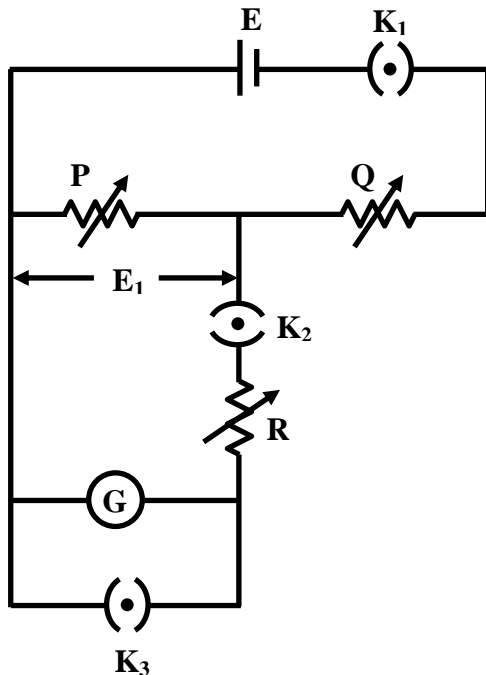

Fig. 1
- a) To determine free period T of the galvanometer on open circuit, keep $R = 0$, and get a deflection of 20cms on the scale by adjusting P and Q in Fig. 1. Then open K_2 and find the time (in seconds) taken for a few oscillations. $\therefore T = \text{time/no of oscillations}$.
- b) To determine coil resistance R_c (in ohms) of the galvanometer, keep $R = 0$, and get a deflection of 20cms on the scale by adjusting P and Q in Fig. 1. Then increase R gradually so that the deflection is 10cms. This of R is R_c .
- c) To determine sensitivity S (in radians per ampere) of the galvanometer, keep $R + R_c$ a convenient value in Fig. 1, get the deflections corresponding to few different values of P .
- (a) Refer to Figs. 1 and 4. Note deflections θ_1 and θ_2 for two consecutive swings of the galvanometer under open circuit damping ratio
- (b) Refer to Fig. 1 and 5 set different values for damping ratio δ using the formula